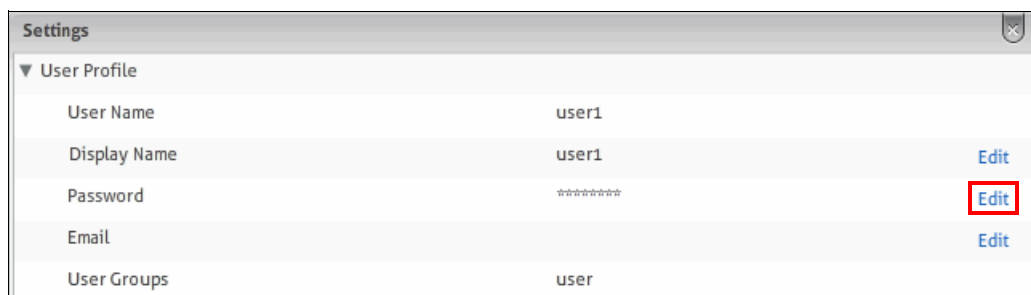

Figure 5-8 Settings pane to change the password
3. In the Settings pane, click **Edit** to the right of the Password field, as shown in Figure 5-8, to change your password.